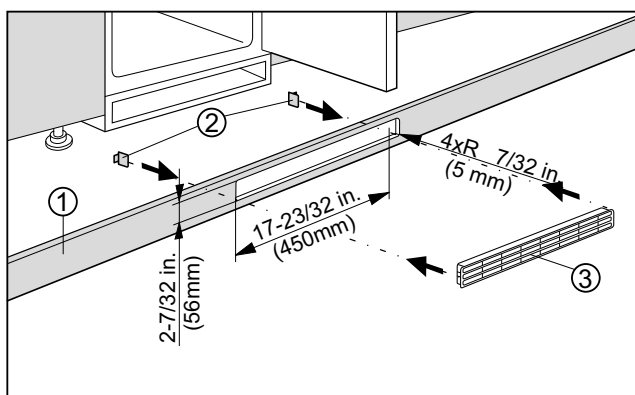

Figure 6
- Ventilation through the cabinet base at the bottom can be achieved by installing the provided ventilation grille (**Fig. 6, 3**) or via a ventilation opening of at least 31 in.² (200 cm²).
When using the provided ventilation grille (**Fig. 6, 3**), please proceed as follows:
- In the cabinet base, cut out a ventilation opening that is 17-23/32 in. (450 mm) in width and 2-7/32 in. (56 mm) in height (**Figure 6**).
- Insert ventilation (**Fig. 6, 3**) grille into the cabinet base cut-out (**Fig. 6, 1**).
- From the back side, slide the snap-fits (**Fig. 6, 2**) into the grille until the hooks make contact with the cabinet base.